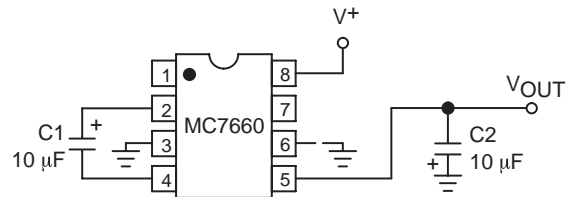
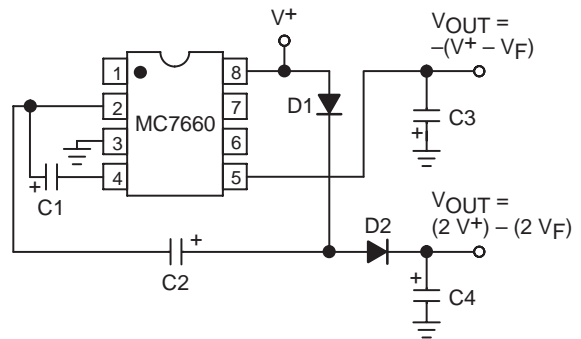
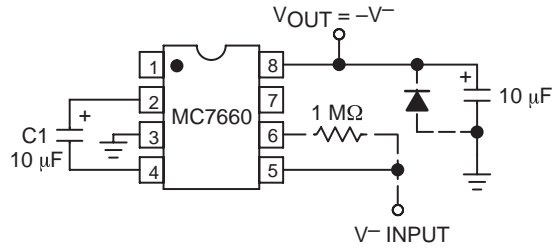
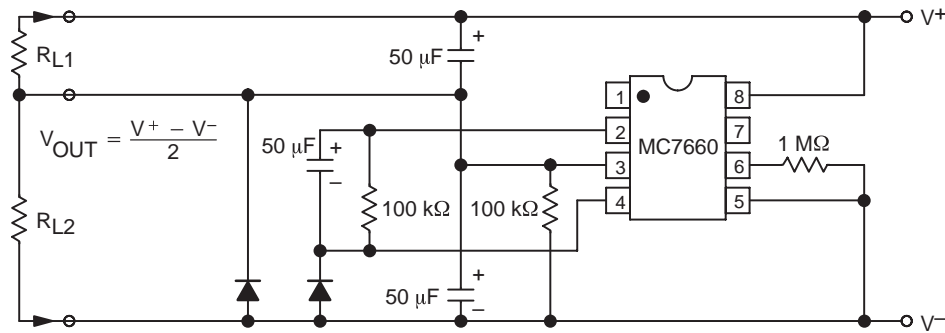

Figure 3. Simple Negative Converter
Figure 9. Combined Negative Converter and Positive Multiplier
Figure 10. Positive Voltage Conversion
Figure 11. Splitting a Supply in Half
Figure 3 shows typical connections to provide a negative supply where a positive supply is available. A similar scheme may be employed for supply voltages anywhere in the operating range of +1.5V to +10V, keeping in mind that pin 6 (LV) is tied to the supply negative (GND) only for supply voltages below 3.5V.
The output characteristics of the circuit in Figure 3 are those of a nearly ideal voltage source in series with 70Ω. Thus, for a load current of -10mA and a supply voltage of +5V, the output voltage would be -4.3V.
Figure 9 combines the functions shown in Figures 3 and 8 to provide negative voltage conversion and positive voltage multiplication simultaneously. This approach would be, for example, suitable for generating +9V and -5V from an existing +5V supply. In this instance, capacitors C_1 and C_3 perform the pump and reservoir functions, respectively, for the generation of the negative voltage, while capacitors C_2 and C_4 are pump and reservoir, respectively, for the multiplied positive voltage. There is a penalty in this configuration which combines both functions, however, in that the source impedances of the generated supplies will be somewhat higher due to the finite impedance of the common charge pump driver at pin 2 of the device.
Since the switches that allow the charge pumping operation are bidirectional, the charge transfer can be performed backwards as easily as forwards. Figure 10 shows a MC7660 transforming $-5V$ to $+5V$ (or $+5V$ to $+10V$, etc.). The only problem here is that the internal clock and
switch-drive section will not operate until some positive voltage has been generated. An initial inefficient pump, as shown in Figure 9, could be used to start this circuit up, after which it will bypass the other (D_1 and D_2 in Figure 9 would never turn on), or else the diode and resistor shown dotted in Figure 10 can be used to "force" the internal regulator on.
The same bidirectional characteristics used in Figure 10 can also be used to split a higher supply in half, as shown in Figure 11. The combined load will be evenly shared between the two sides. Once again, a high value resistor to the LV pin ensures start-up. Because the switches share the load in